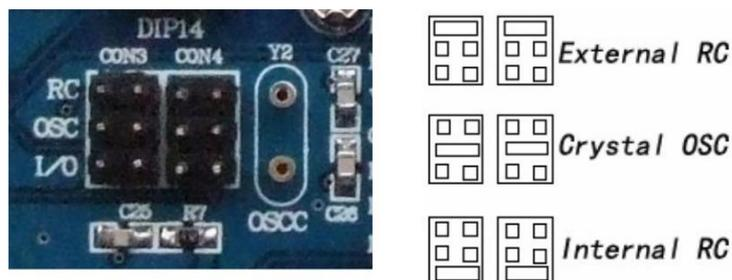

Figure 5: DIP8/14/20 Clock
2. DIP8/14/20 clock selection. As shown in Figure 5.